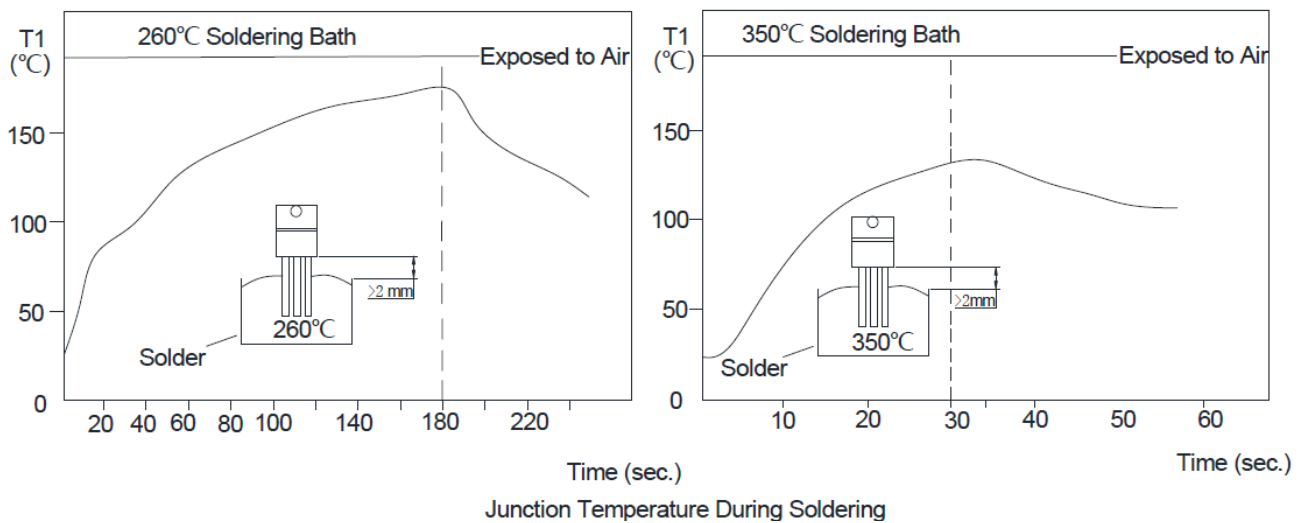

Fig. 21 Dip or wave soldering thermal profile
- Dip or wave soldering thermal profile, as shown in Figure 21.